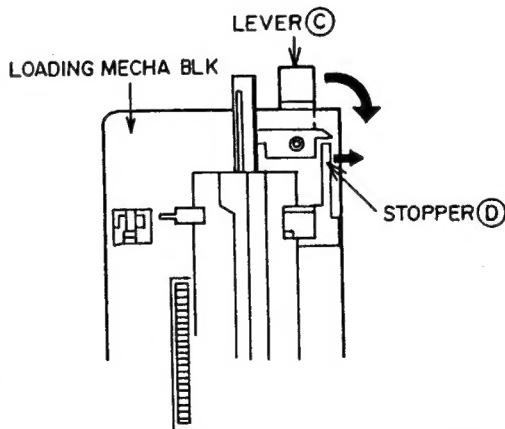

Fig. 4-5
- 2) Turn the LEVER **(C)** while releasing the STOPPER **(D)** as shown Fig.4-5, and pull out the DISC DRAWER.